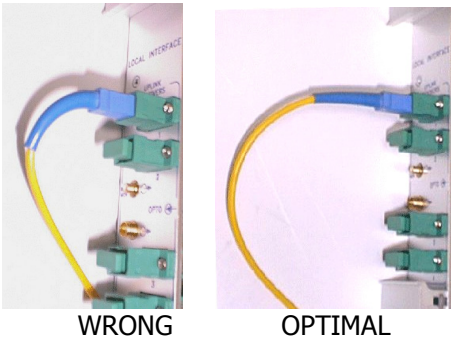

Fig. 13 – Fibre connection
- ✓ Do not force or stretch the fibre pigtail with curve radius less than 5 cm. See Fig. 13 for optimal fibre cabling.